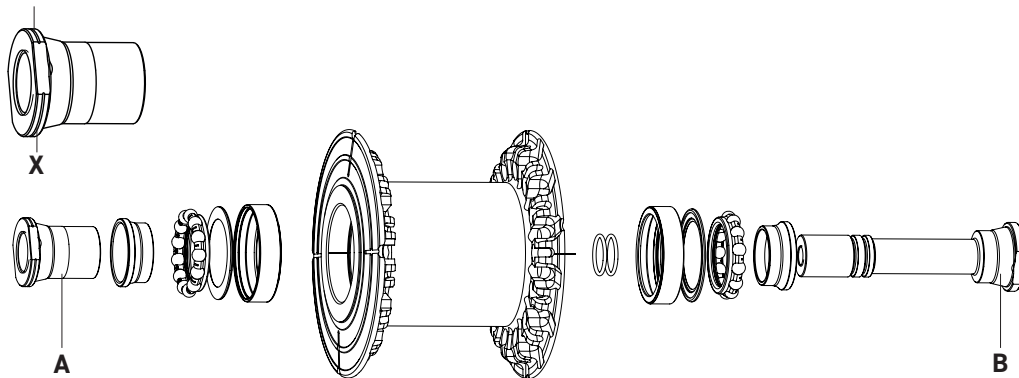
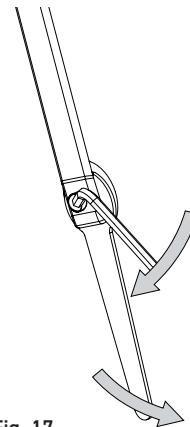

Fig. 14
Fig. 17
- Identify the adjustable side of the pivot (A - Fig.14), which can be recognised by the groove (X - Fig. 14). The non-adjustable side, on the other hand, does not have a groove (B - Fig. 14).
- Tighten the screw from the adjustable side of the pivot (A - Fig. 14) to a torque of 12-13 Nm, counteracting the rotation of the pivot with a 17 mm flat wrench (Fig. 17) on the same side of the pivot.
- Lock the pivot using a 17 mm flat wrench to engage in position B (Fig. 14) and use another 17 mm flat wrench to unscrew the adjustment bushing A (Fig. 14), which can be recognised by a groove, on the opposite side.